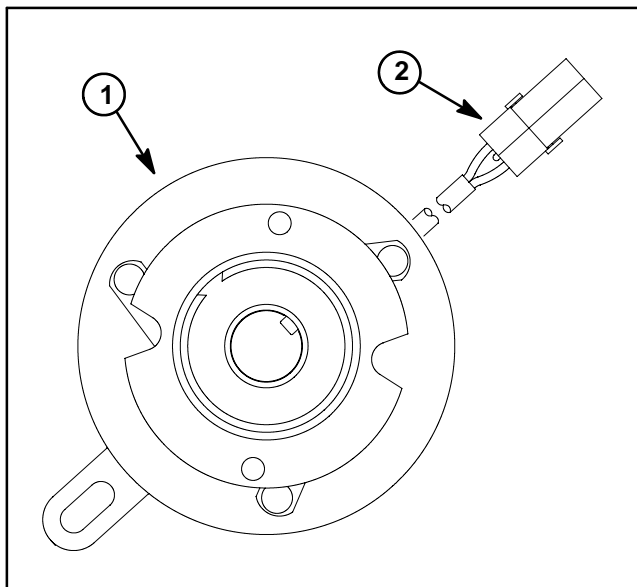

Figure 20
2. Locate clutch on pump drive gearbox shaft. Unplug clutch connector from machine wire harness (Fig. 20).